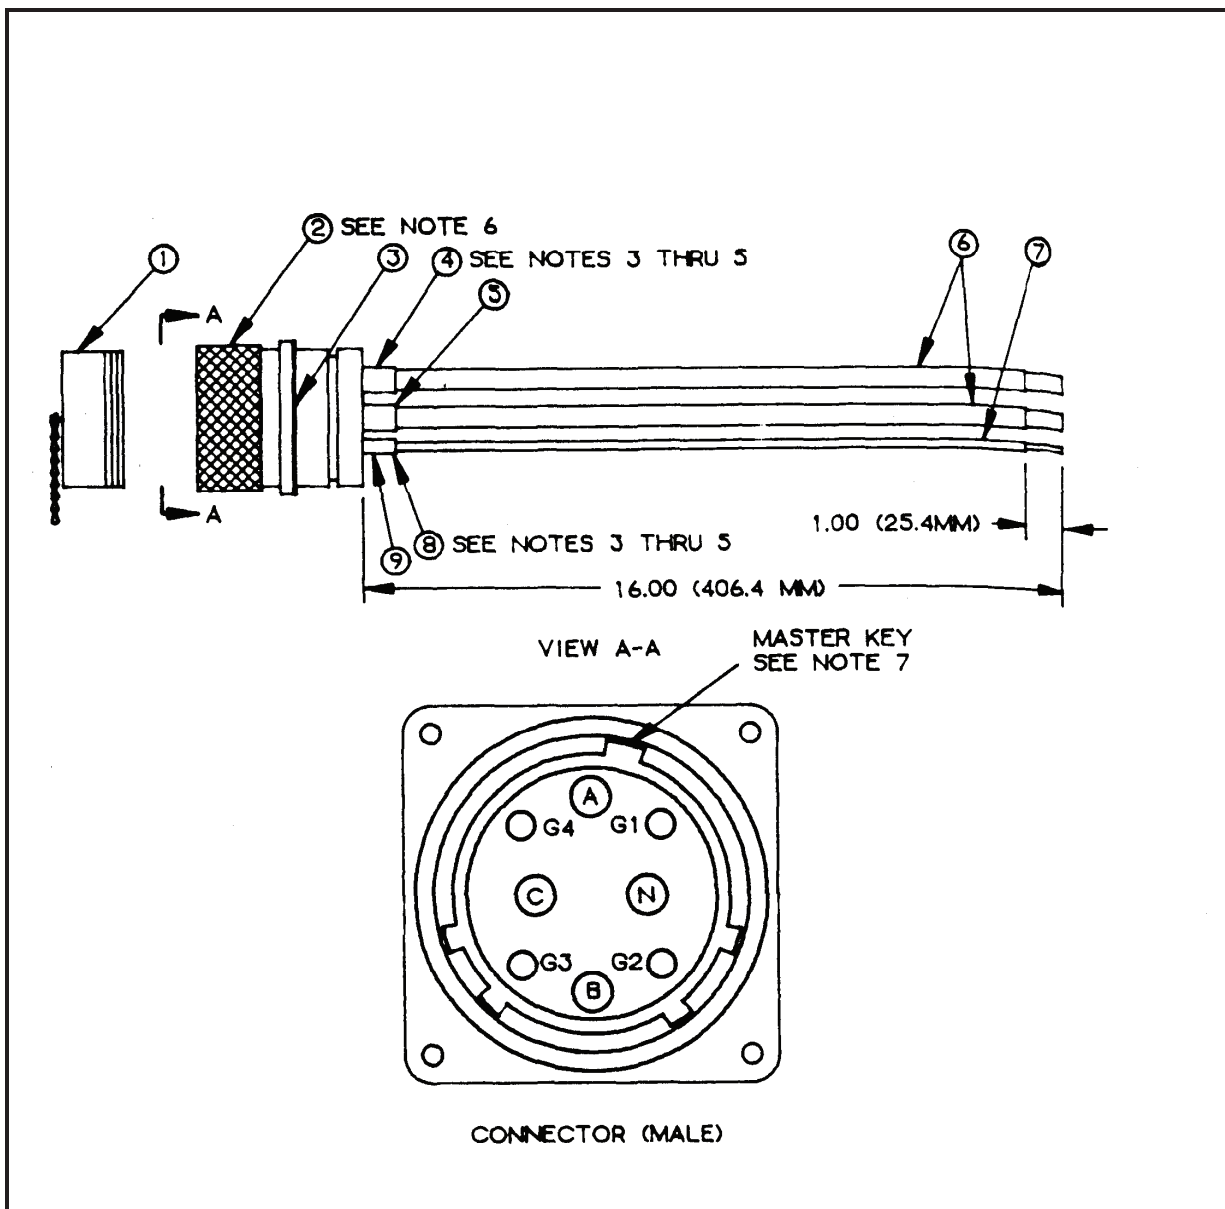

Figure F-5. Feeder Center Input Connector Assembly, 200-Amp (J1)
Component Legend for Figure F-5
- c. Electrical connector (Figure F-5, Item 2) is furnished with the following: